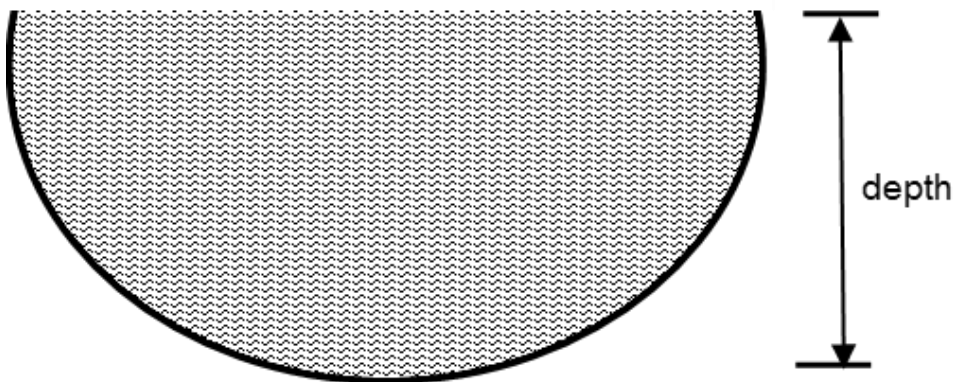

FIGURE 2 (7)
2.2 FIGURE 2 below shows a semi-circular channel that is designed to overcome the overflow of storm water on the N12 highway. The hydraulic gradient of the channel is 3 m for every 4 km. ◆